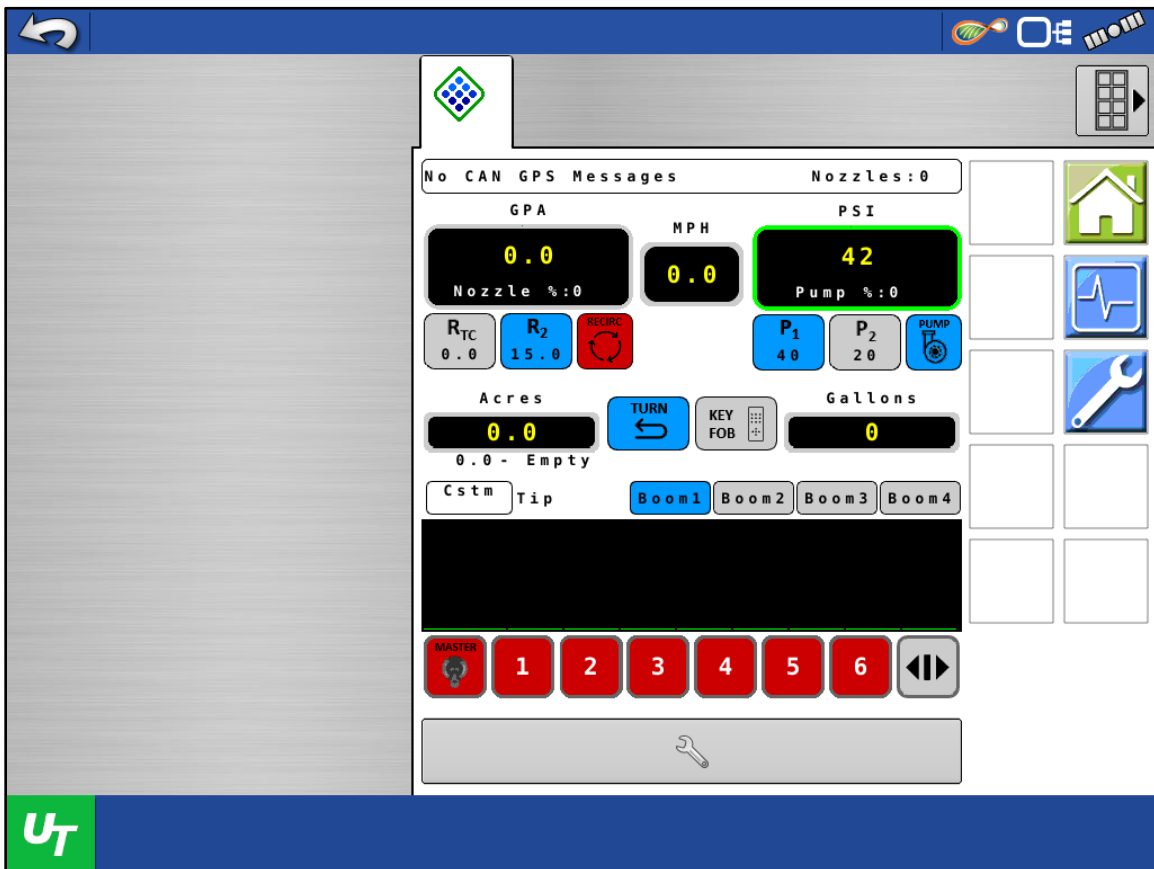

Figure 1 — Task Controller Home Screen
1. *Figure 1:* Select CapstanAG PinPoint III icon  from program icons on the left side of the task controller screen. This icon may be located in slightly different places depending on the task controller.